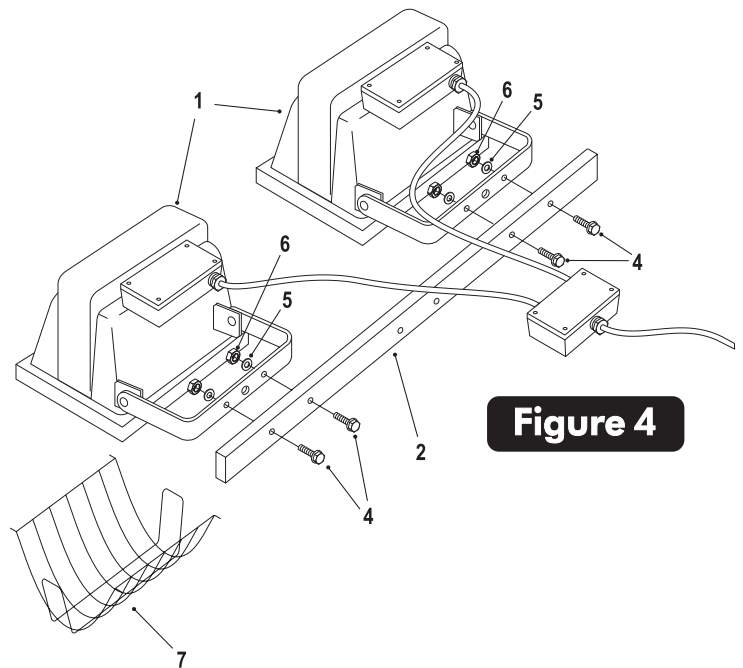

Figure 4
- Attach Halogen Lamp Assembly (#1) to Lamp Mount Bar (#2) using four Washer Head Bolts (#4), four washers (#5) and four locknuts (#6) as shown in Figure 4.